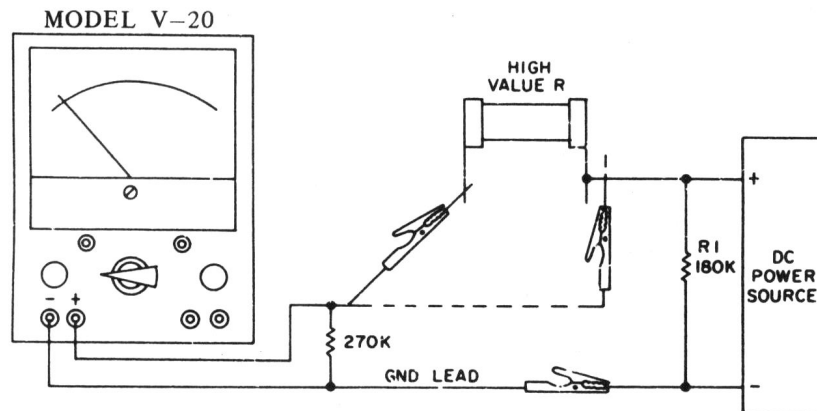

Figure 3. Connections for High Resistance Measurements
1. Set up the Model 565 (555) and the external components and power supply as shown in figure 3.
4. With the high value resistor to be measured connected in series with resistor R1, as shown in figure 3, read the voltage on the meter; then refer to table 4 to obtain the corresponding resistance value.